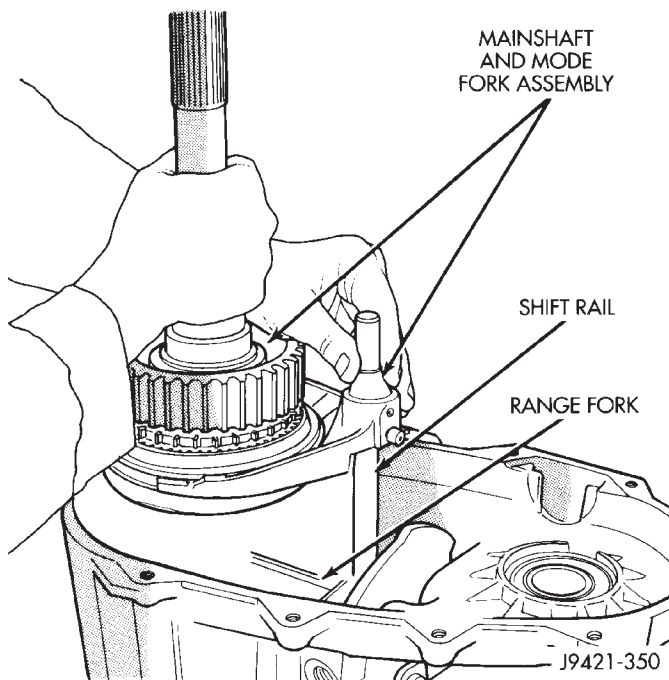

Fig. 83 Installing Mainshaft And Mode Fork Assembly
(7) Install mainshaft/mode fork assembly (Fig. 83). Guide mainshaft through hub and into input gear and shift rail through range fork and into case bore.